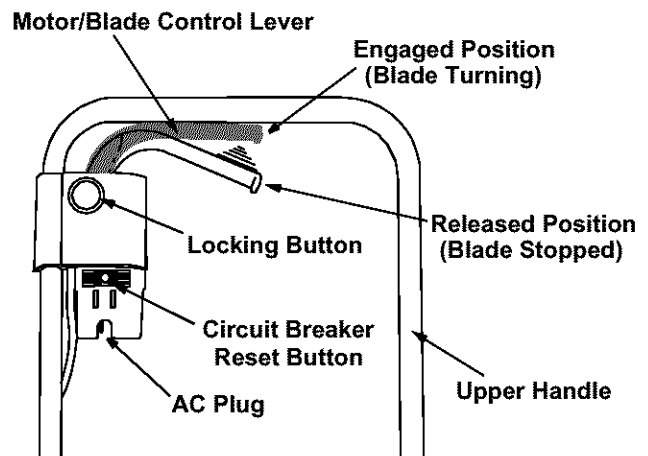

Figure 9
To engage the motor and blade, first be certain to follow the previous steps for connecting a suitable extension cord, then referring to Figure 9:
The mower is equipped with a circuit breaker, located on the motor/blade control assembly as shown in Figure 9. This circuit breaker may trip when too much strain is placed on the mower. The circuit breaker may have been tripped if the mower will not run.
- If this occurs, unplug the mower, wait approximately five minutes, then depress the reset button. Refer to Figure 9.